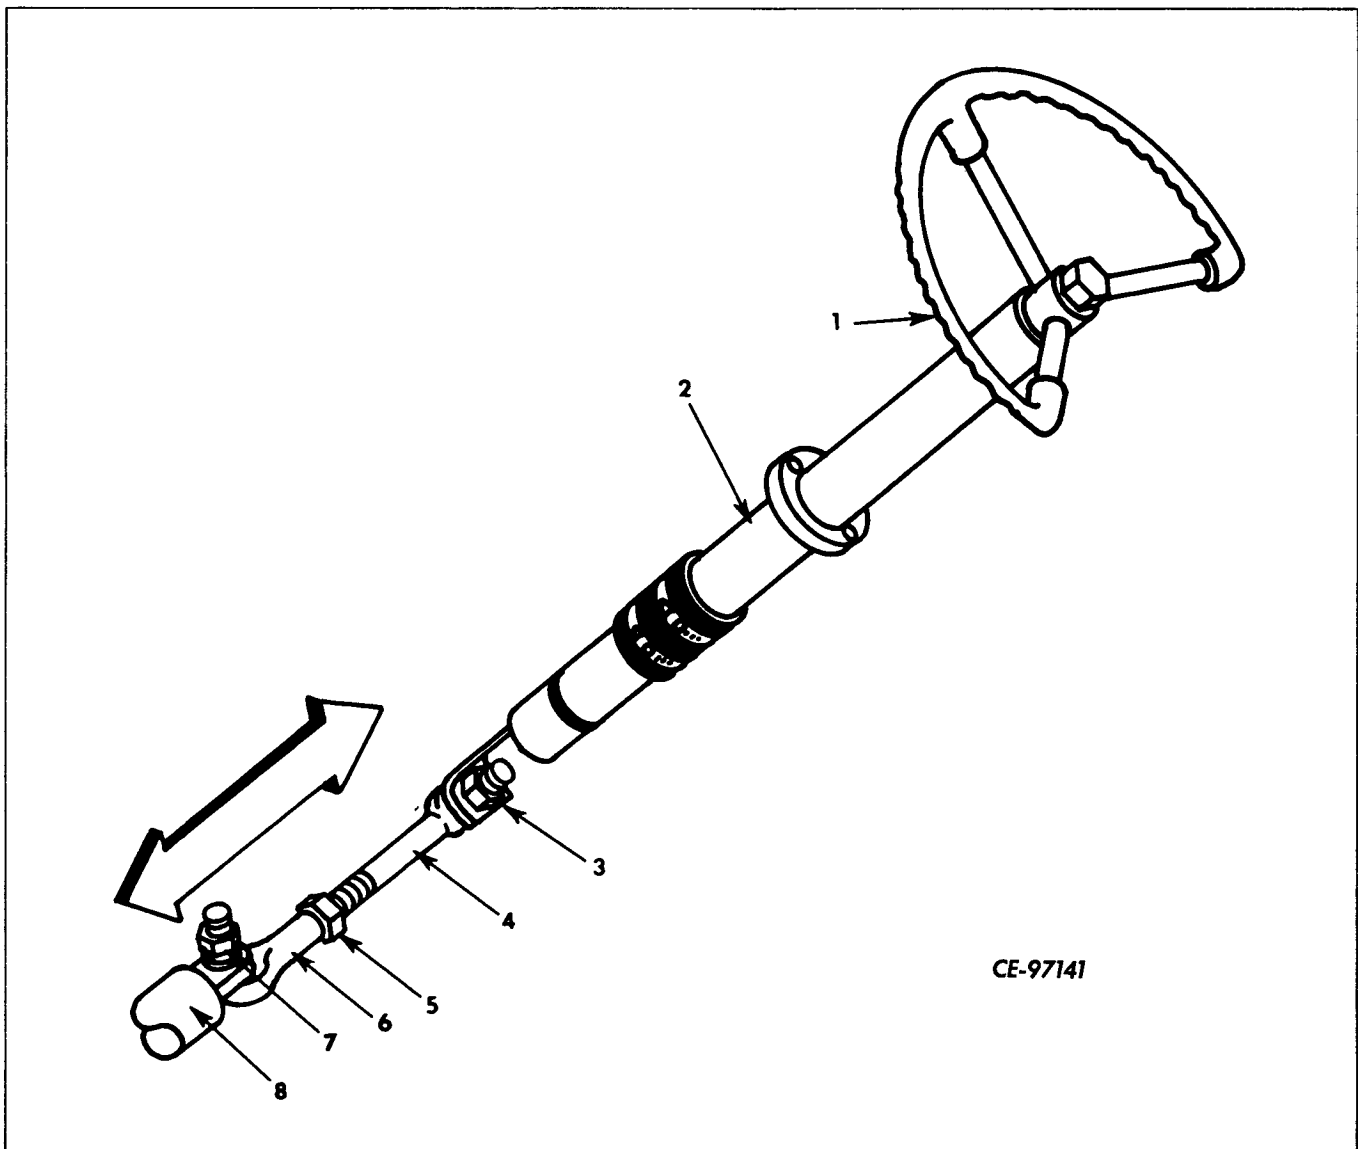

Figure 9-4
Disconnect rod ends (4, 6, Fig. 9-4) between steering column and valve spool (8) by removing cap screws, lock washers and nuts (3, 7).